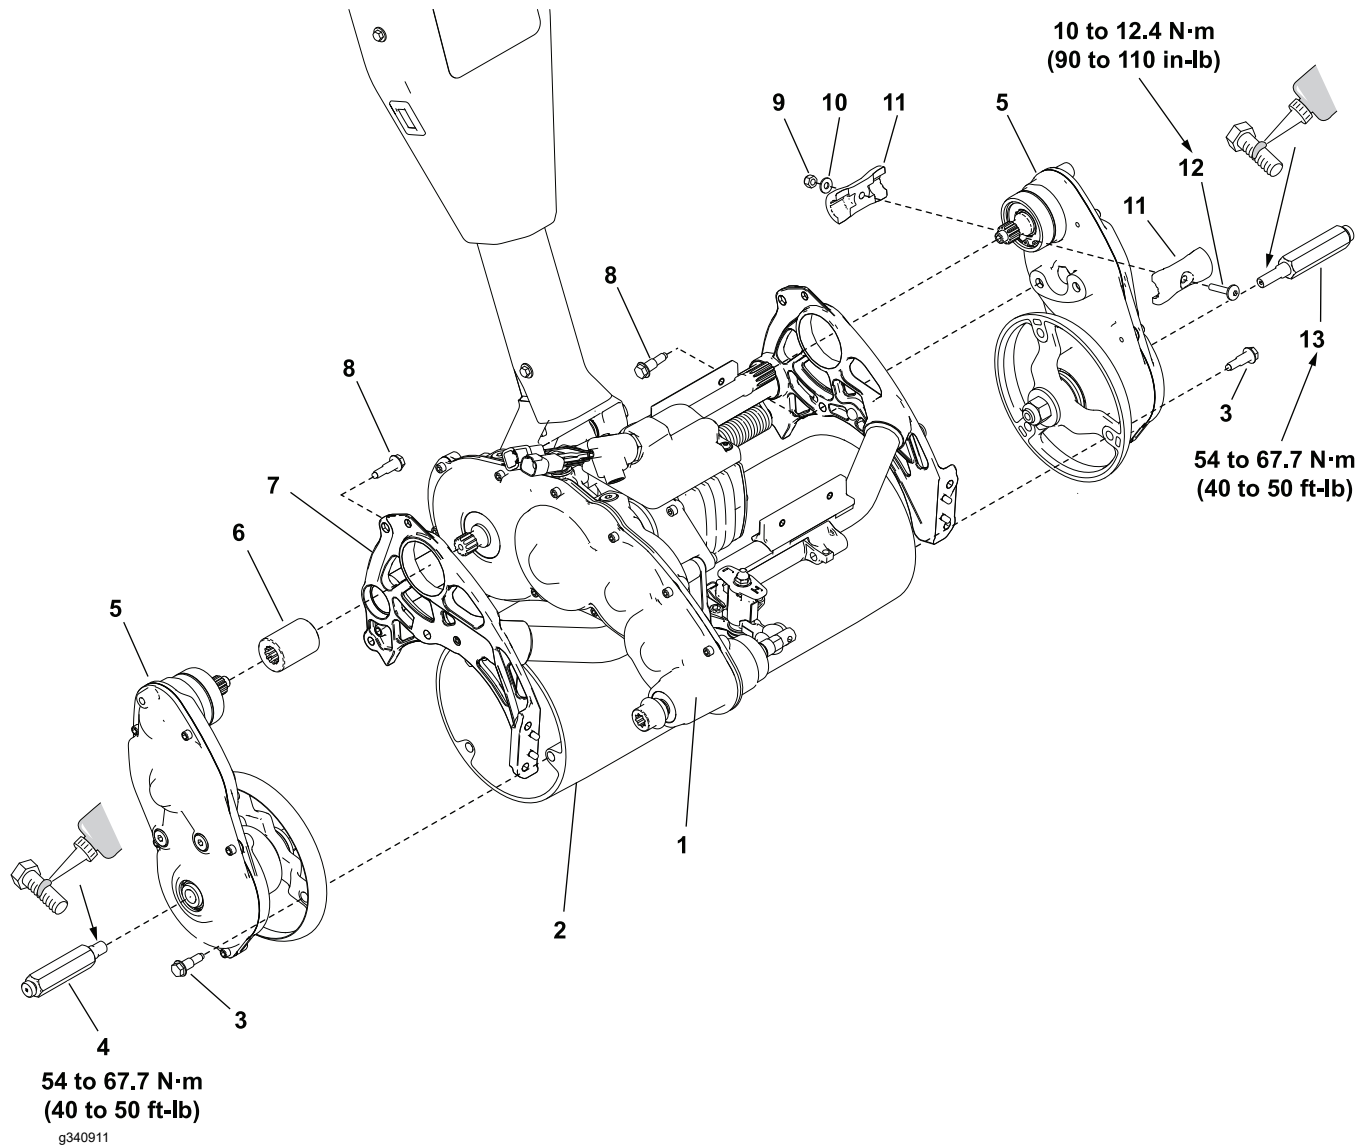

Figure 18
Note: Refer to Figure 18 during this procedure.
1. If removed, apply a coat of Loctite (blue) to threads of the hexagonal shaft (4 and 13). Install the hexagonal shaft (item 4 and 13 in Figure 18) to the LH and RH drum drive gear box assemblies (5). Torque tighten the hexagonal shaft to **54 to 67.7 N·m (40 to 50 ft-lb)**.
2. Apply a light coat of grease and install the O-ring (29) to the drum drive housing (25).
3. If removed, slide the drive tube (item 6 in Figure 18) onto the transmission gear box assembly (1).
4. Install the LH and RH drum drive gear box assemblies (Item 5 in Figure 18) to the frame assembly (7) and secure with the shoulder bolts (8).
5. Install the LH and RH drum drive gear box assemblies (5) to the traction drum (2) and secure with the 3 shoulder bolts (3).
6. Install the 2 splined couplers onto the transmission gear box assembly (1) and LH drum drive gear box assembly (5) and secure with the truss screw (12), washer (10) and nut (9).
7. Torque tighten the truss screw (12) to **10 to 12.4 N·m (90 to 110 in-lb)**.